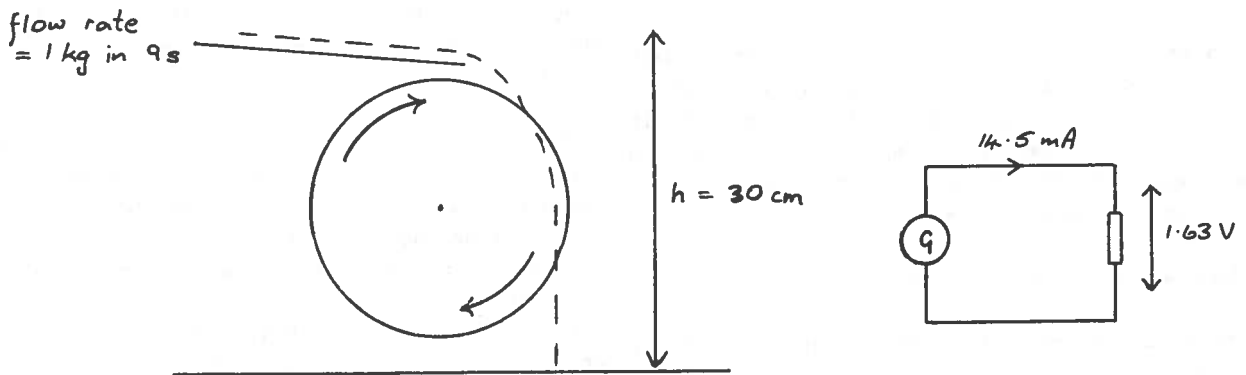

Fig.5 - Measurements with McKI wheel.
The first model drove a generator which was loaded with five light emitting diodes and a small motor (SSSERC items 373 and 508). Figure 5 shows the measurements.